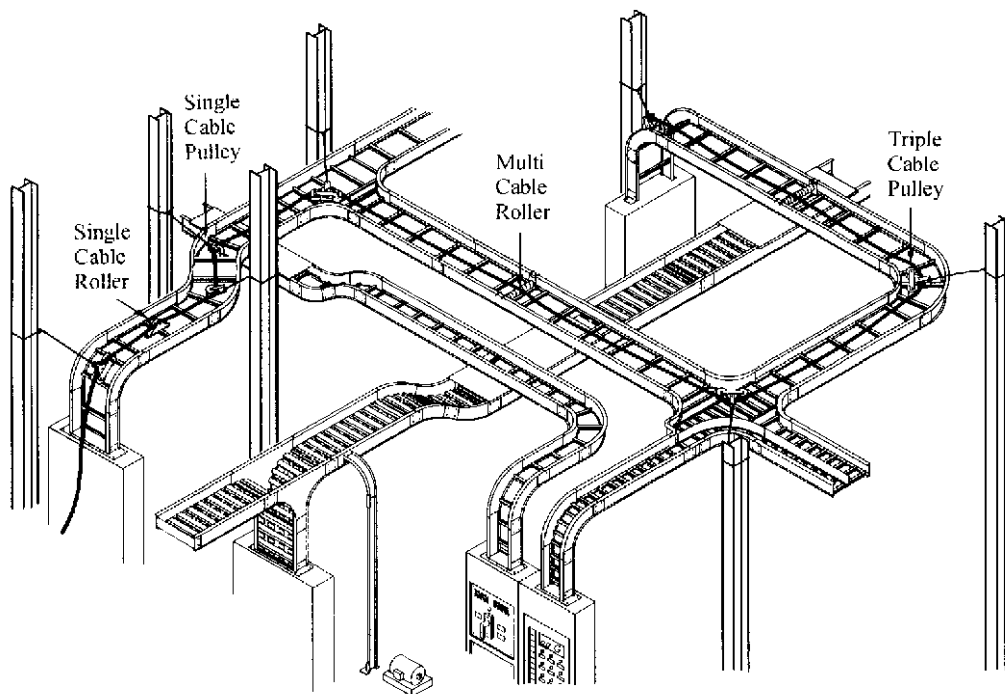

Figure 5.1
5.4 CABLE PULLING CONSIDERATIONS (See Figure 5.1)